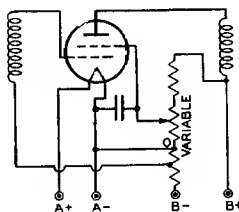

Fig. 44
**Screen voltage variation** for the r-f amplifier stages is sometimes used for volume control of the receiver. Reduced screen voltage lowers the mutual conductance of the tube and results in decreased gain per stage. The voltage variation is obtained by means of a potentiometer shunted across the screen voltage supply. See Fig. 44.